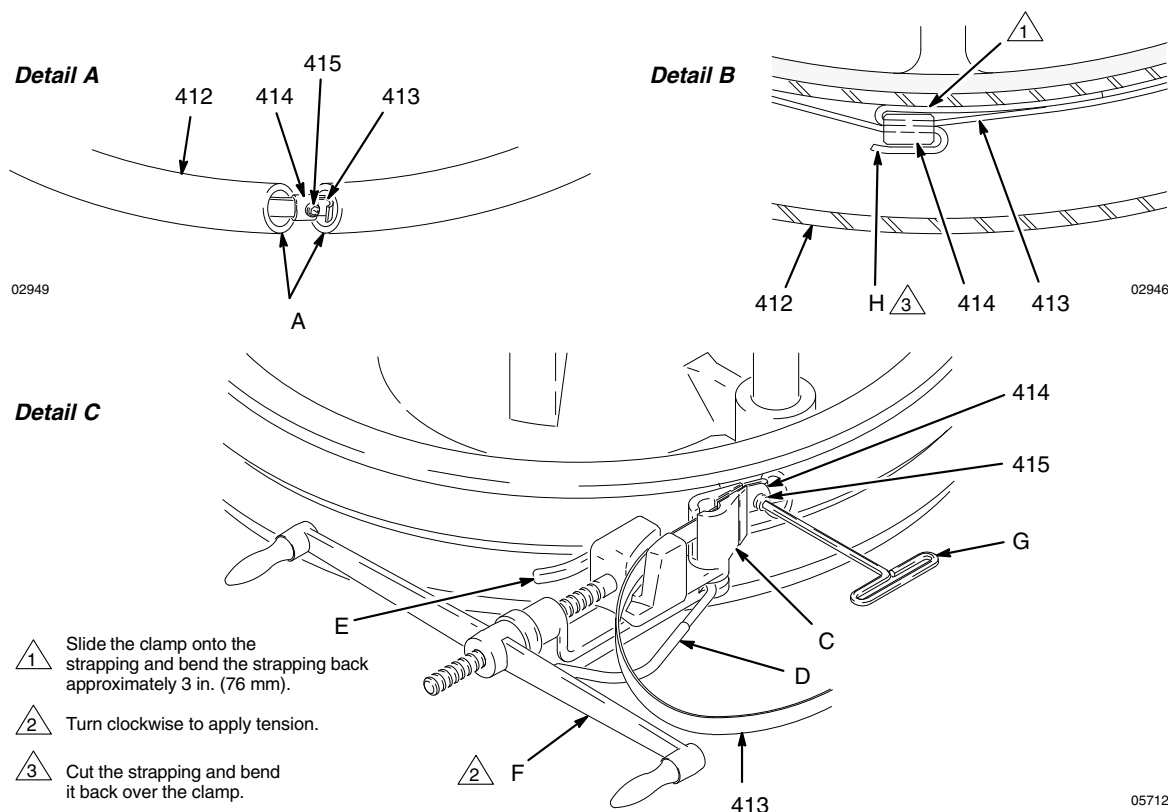

FIG. 19
Replacing Wipers (FIG. 19)
3. Separate the wiper joint (A) and bend back the strapping covering the clamp setscrew. See Detail A of FIG. 19. Loosen the setscrew, pull the end of the strapping through the clamp and remove the wiper.
4. Slide the strapping through the new wiper. Slide the clamp onto the new strapping and bend the strapping back approximately 3 in. (76 mm). Insert the strapping through the clamp a second time. See Detail B of FIG. 19.
5. Install the wipers on the follower plate. Position the wipers so that their joints (A) are 180 apart.
NOTE: You will need the special banding tool (C) shown in Detail C of FIG. 19 to tighten the strapping. Order Part No. 168092 Banding Tool.
6. Grip the strapping with the tool (C) as shown. With your thumb on the gripper lever (E), turn the tool handle (F) clockwise to apply tension.